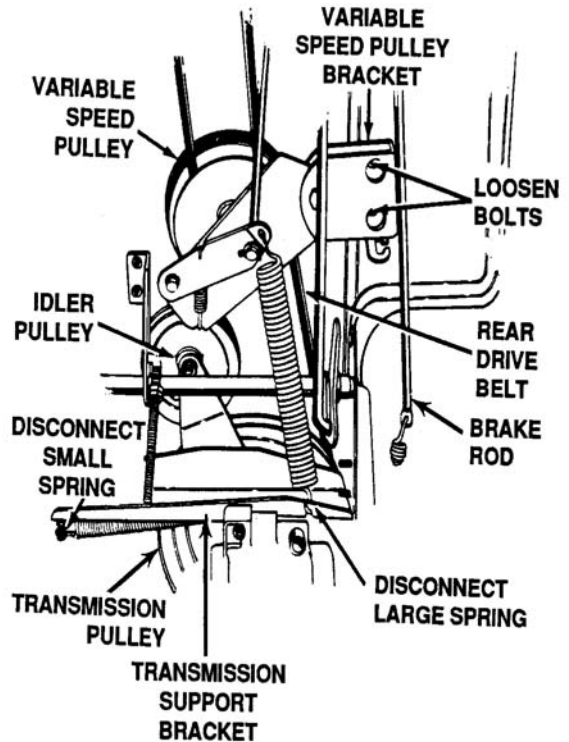

Figure 7-8. Location of Pulleys
- h. Remove the rear drive belt from around the top of the variable speed pulley. Remove belt from transmission pulley and idler pulley. See Figure 7-8.